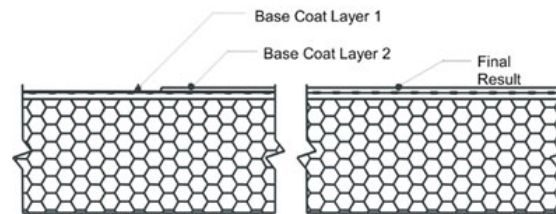

Fig. 22
- 3) Allow the base coat mixture to take up until firm to the touch. Trowel a second tight coat of the base coat mixture over the first coat to fully cover the reinforcing mesh - Figure 22. The result should be such that the reinforcing mesh is approximately centered within the base coat thickness. Do not allow the first pass to completely dry prior to the second pass application or an excessive amount of base coat mixture will be necessary to fully coat the wall surface